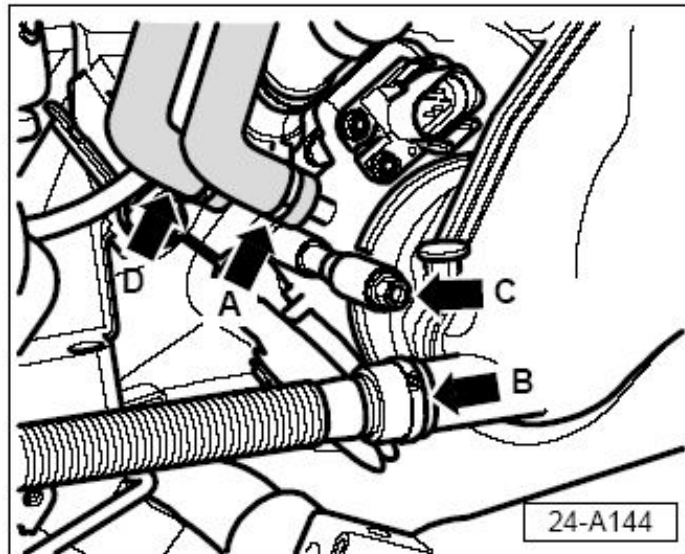

Figure 13. The canister purge regulator hose (A), crank case vent hose (B), cap screw (C), and vacuum hose (D).
35. Place air intake elbow in front of throttle body, and reconnect crank case vent hose (Figure 13, B).
Slide elbow to correct position on throttle body. Secure with cap screw (Figure 13, C). Tighten to 10Nm (7 ft. lbs.).
36. Reconnect vacuum hose (Figure 13, D). Secure with new clamp, Part No: **N 102 334 01**.
37. Reconnect evaporative emission (EVAP) canister purge regulator hose (Figure 13, A) to the throttle body and secure with clamp.